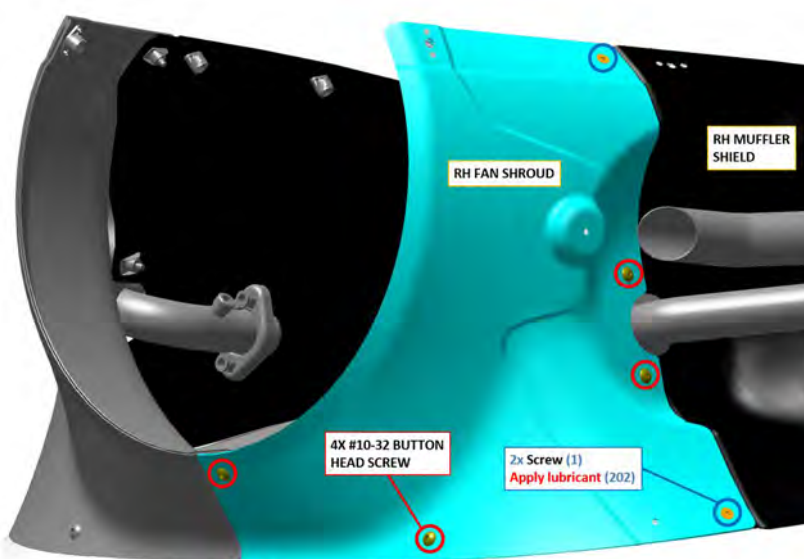

FIGURE 17-8
2. Install RH fan shroud. (See Figure 17-8.)